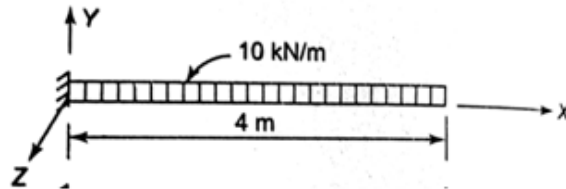

Figure 5
- (b) Using the stiffness method, calculate the end deflection and rotation of a cantilever beam loaded uniformly as shown in Figure 5.  $EI$  is constant. [8 M]